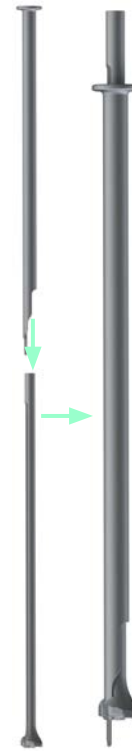

Fig. 53
- The Locking Cap Inserter Removal Tool should be assembled onto the Locking Cap Inserter sleeve (Fig. 53).